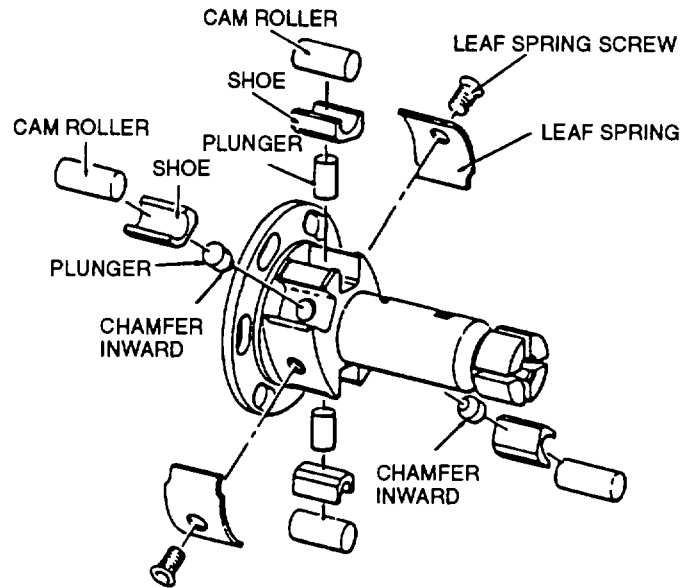

FIGURE 3-90. Installing Rollers and Shoes (Typical)
- k. If removed, install six new fuel connectors (47) in head.
- l. If removed, install plungers (29) in their bores and check for freedom of movement. Install four shoes (28) and rollers (27) on rotor, refer to FIGURE 3-90.